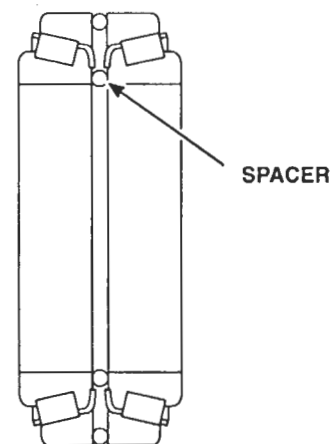

Figure 3. Idler Gear Bearing
4. Tap the bearing cups and spacer rings (current gear) or bearing cup and spacer (former gear) from the idler gear by using a brass drift alternately at four notches provided around the shoulder of the gear (Figure 3.)